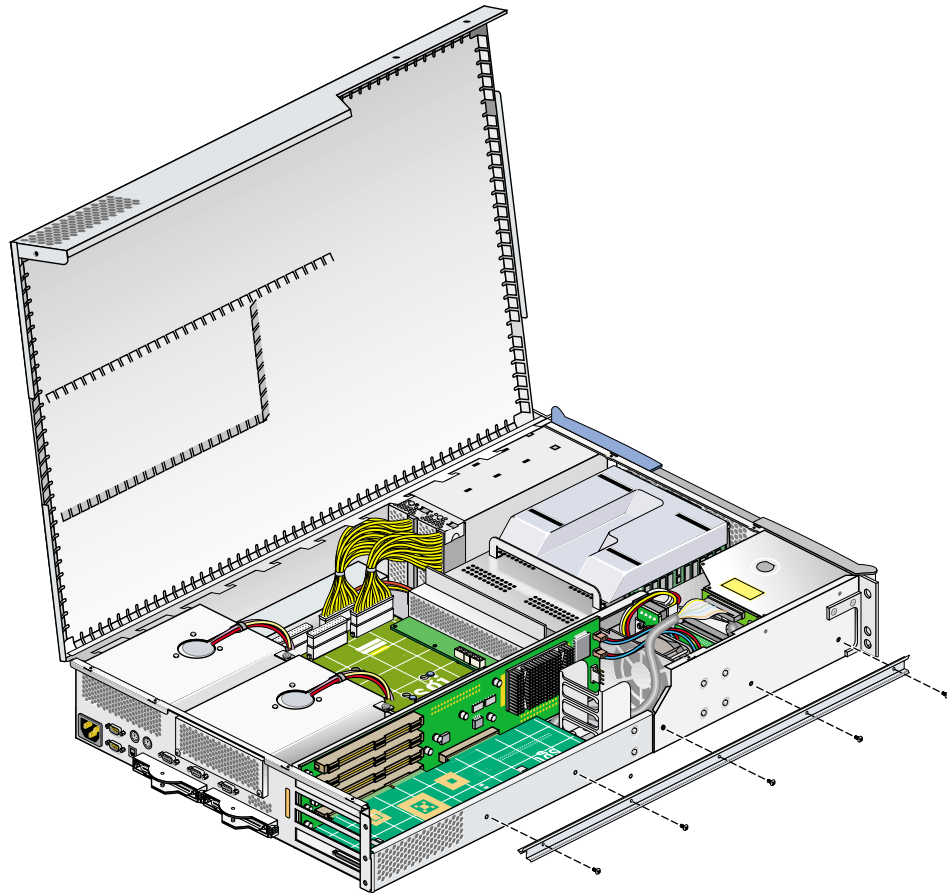

Figure 6-8 Replacing the Chassis Rail
12. Replace the chassis rail by screwing in the five Phillips screws, as shown in Figure 6-8.